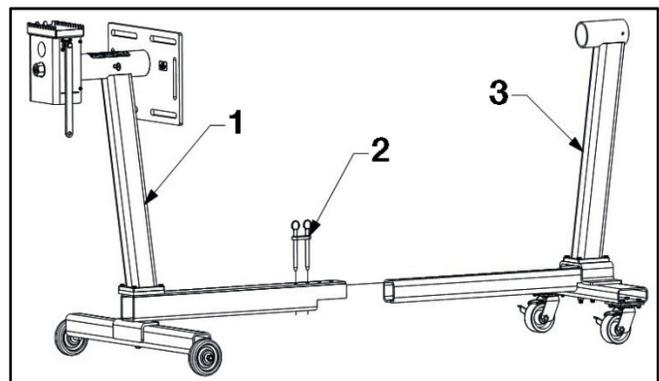

Fig. 5: Assemble front and rear subassemblies
6. Slide the Rear and Front Subassemblies together by inserting the Inner Main Tube into the Outer Main Tube (Fig. 5).